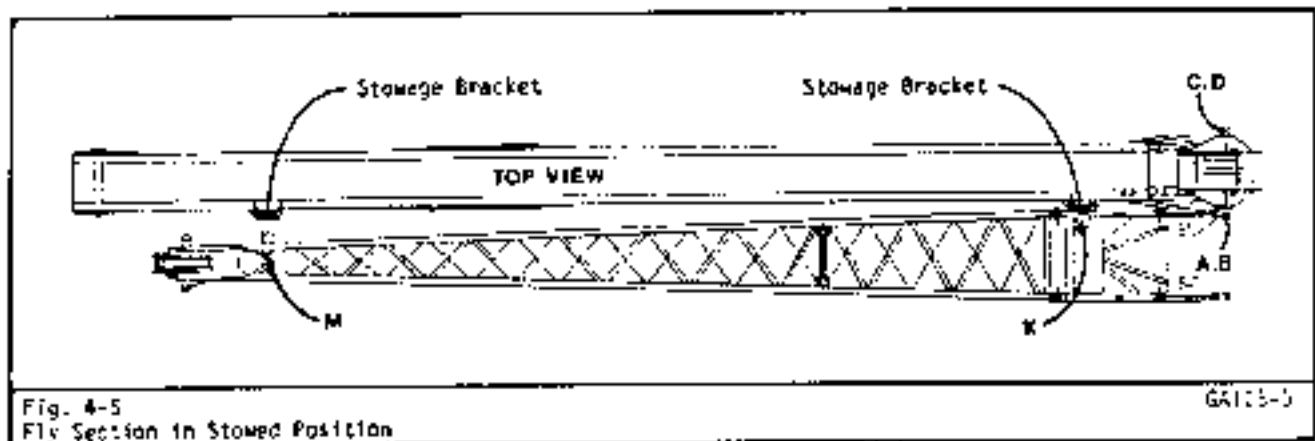

Fig. 4-5
- Secure the fly section to the storage brackets with pins and stowing block at "K" and "M". Secure all pins with keepers. Refer to Fig. 4-5.
- Fully retract the boom and lower it to horizontal (0° boom angle). Install pins and keepers at "A" and "B". Refer to Fig. 4-5.